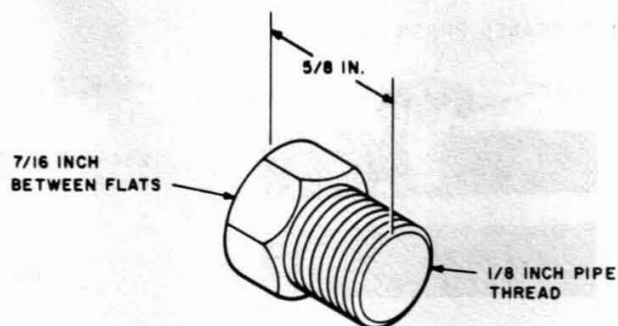

Fig. 5—C Pressure Flange Plug
3.04 The C pressure flange plug (Fig. 5) is a hex head brass plug with 1/8-inch pipe threads. It is used for sealing C, F, and similar flanges. Order the plugs separately as needed, since they are not furnished as part of the flange. The plug is furnished in packages of 25.